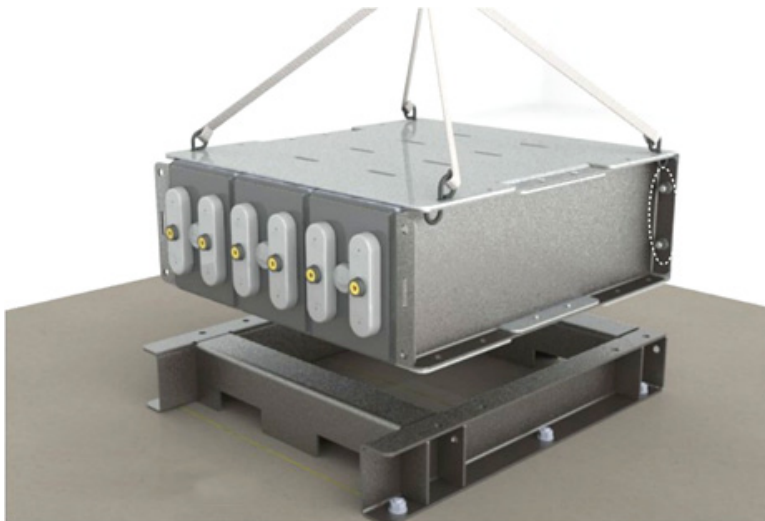

Figure 6 Portable Crane / Fork Lift
In the case of limited access in the rear of the module, install only the four (4) 10mm bolts in the rear flanges prior to hoisting. Connect optional lifting straps in a "X" pattern as shown and hoist carefully (see Figure 6).